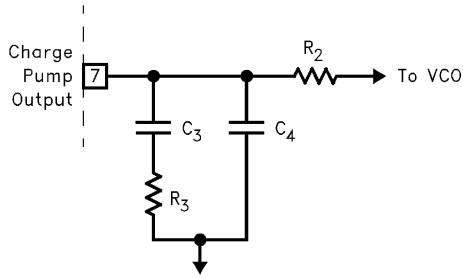

FIGURE 12. TYPICAL LOOP FILTER
6. Notice R₂ has little effect on the loop filter design. R₂ should be large, around 100k, and can be adjusted to compensate for any static phase error Tθ at lock, but if made too large, will slow loop response. If R₂ is made smaller, Tθ (see “Timing Diagrams” on page 5) increases, and if R₂ increases, Tθ decreases. For LDET to be low at lock, |Tθ| < 50ns. C₄ is used mainly to attenuate high frequency noise from the charge pump. The effect these components have on-time to lock is illustrated in Figure 12.